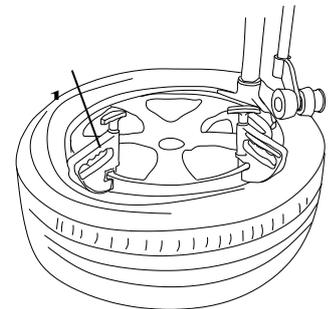

Fig 26
2. Make tyre top bead upon rear of demounting/mounting head and below front of demounting/mounting head, move right pressing arm and make sure it is locked, pull handle D down to make roller C,G to press top bead to position below demounting/mounting head. Lock pressing block 1 on rim edge, rotate turntable, finish tyre mounting. Fig 26